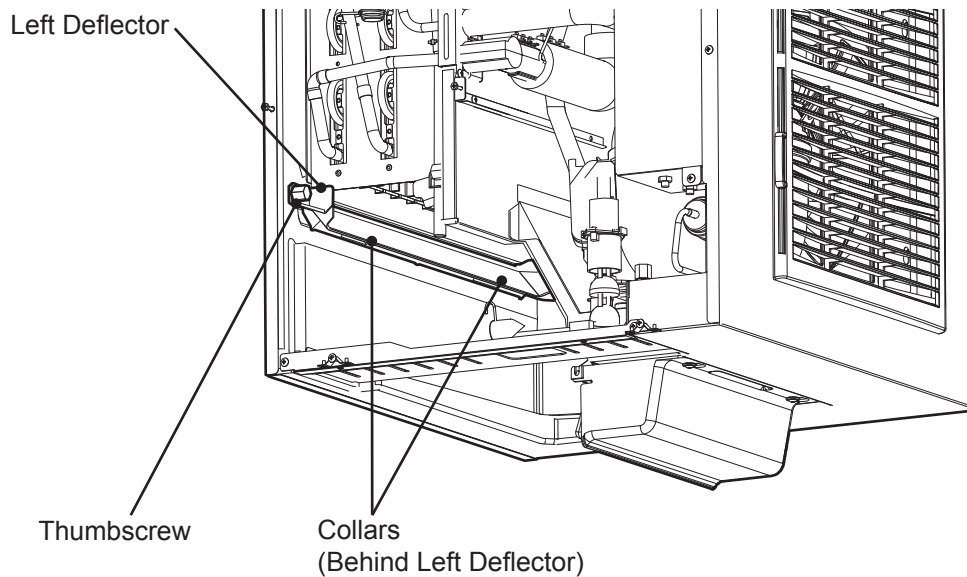

Fig. 7
- 10) Make sure the left deflector is in its correct position with the slotted holes engaged on the collars. Make sure the left deflector is secured with the thumbscrew. See Fig. 7.